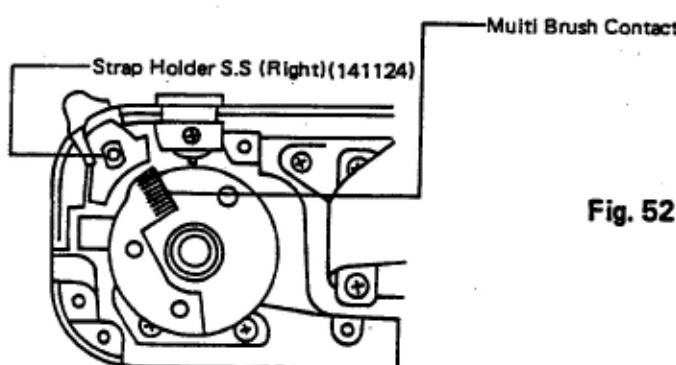
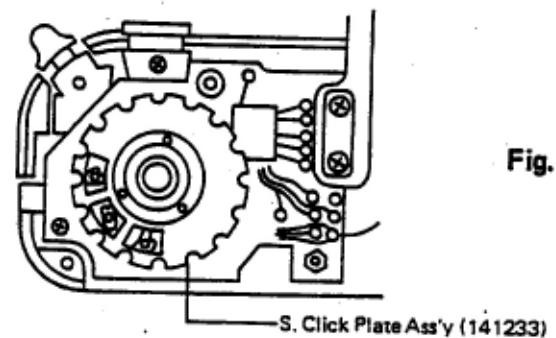

Fig. 52
Fig. 53
- Insert and position the multi brush contact of S. Contact Plate Ass'y opposite to the Strap Holder S.S. (Right) as shown in (fig. 52) and the S. Click Plate Ass'y as shown in (fig. 53) for "Auto" mode setting.